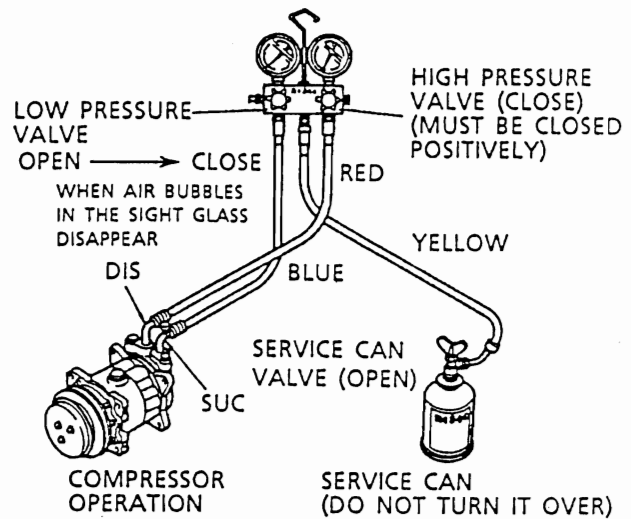

Fig. 28 Gas filling operation (Low pressure side)
(3) Filling from Low Pressure Side (See Fig.28.)